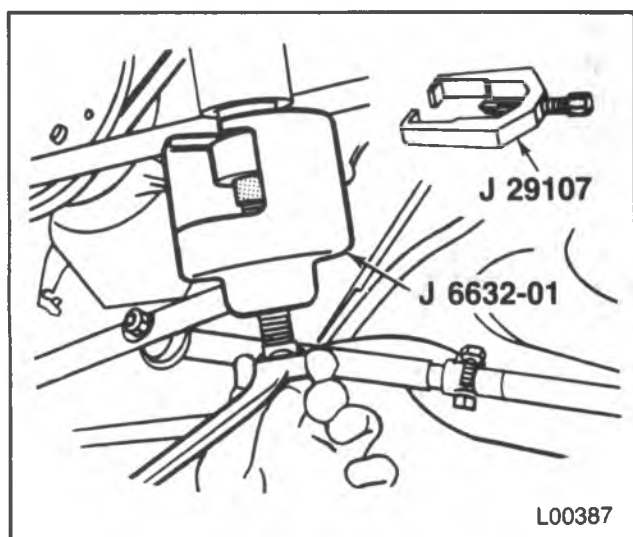

Figure 11 — Removing the Pitman Arm
4. Pitman arm (5). Use J 6632-01 or J 29107 (figure 11).